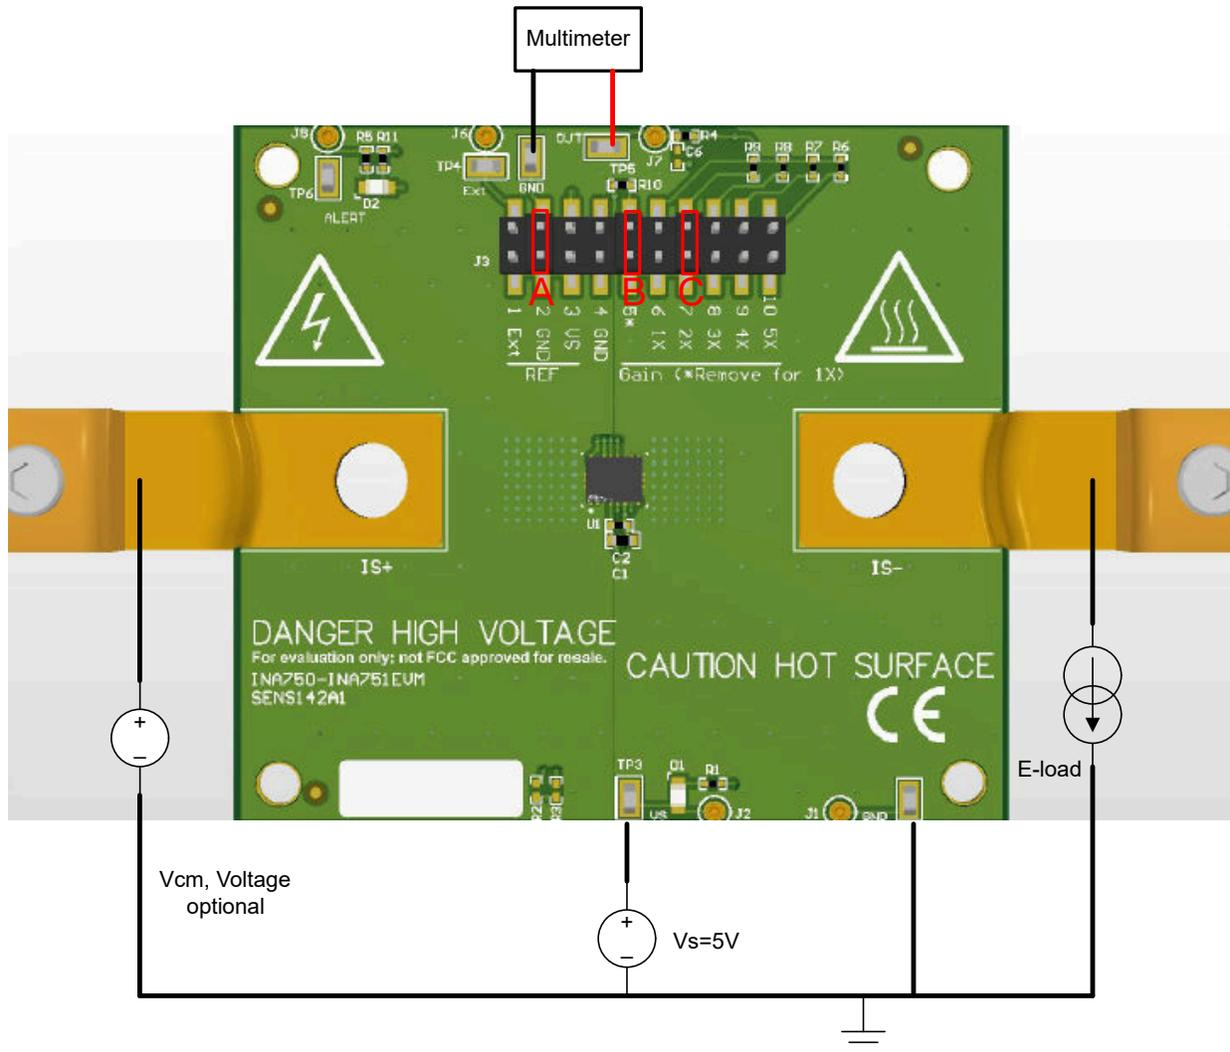

Figure 3-1. High-side Forward Current Setup
The INA750x features default gain 40mV/A. With an external adjustable gain resistor network, total gain (G) can range up to 400mV/A. Position 5 through 10 of header J3 allows the user to customize the adjustable gain, with two shorting jumpers B and C as shown in Figure 3-1. Configuration options provided by the EVM are shown in Table 2-1:
Positions 1 through 3 of header J3 allow the user to customize the REF pin voltage, V_{REF} , with shorting jumper A as shown in Figure 3-1. When using external reference, the voltage source can be connected through J6 or TP4. Configuration options provided by the EVM are shown in Table 2-2.
The following are instructions to set up and use the INA75xEVM. Figure 3-1 shows an example of a simple, high-side setup. The high voltage source for load is noted as V_{CM} . The low voltage DUT supply is noted as V_S . The shorting jumpers A, B and C are installed such that V_{REF} equals to GND and the DUT gain is 80mV/A.